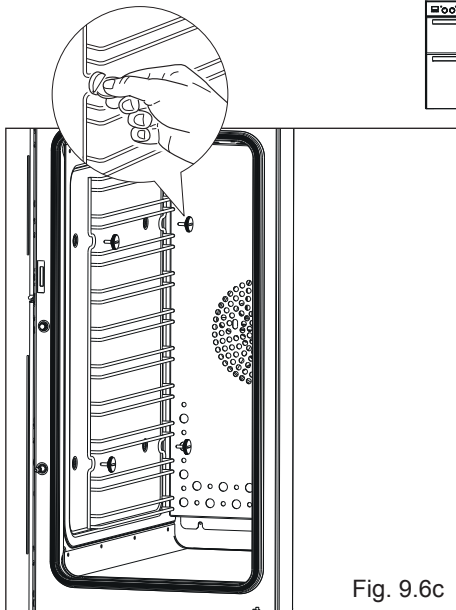

Fig. 9.6c
- Assemble the wire racks to the oven walls using the screws (2 screws figs. 9.6a, 9.6b; 4 screws fig. 9.6c).